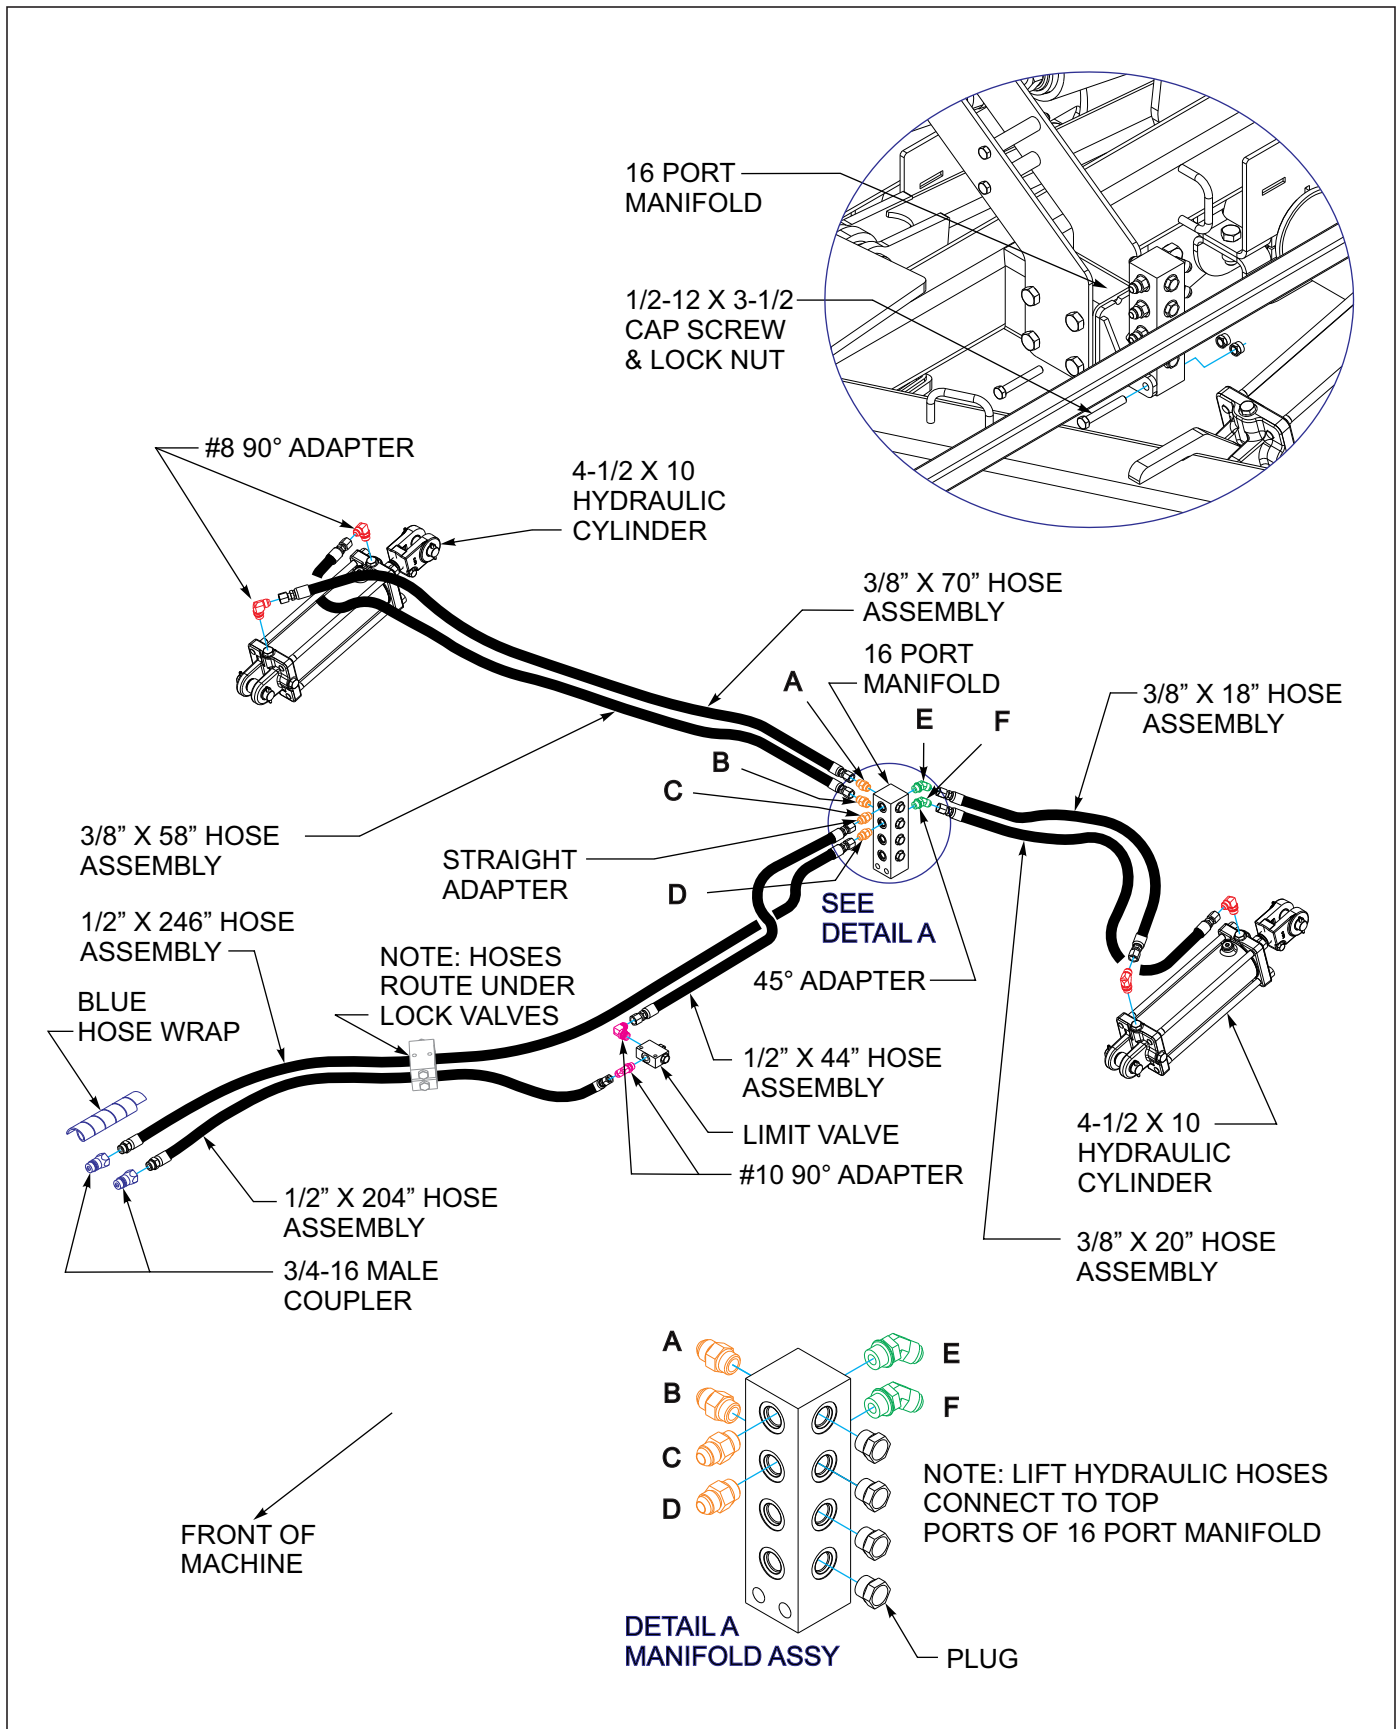

Figure 3-5: Lift Hydraulic Installation 7510-14'
Refer to Figures 3-5 and 3-6 for lift hydraulic diagrams.
1. Install the 16 port hydraulic manifolds at the center of the center frame to the mount welded to the frame (See Figure 3-5.) using 1/2-13 x 3-1/2 hex bolts and 1/2-13 lock nuts. The top two ports are for the lift system and the bottom two are for the adjustable gang system.
2. Install 90 degree regular adapter fittings in both rod and base ends of all lift cylinders that are assembled to the frame (See Figure 3-5.).